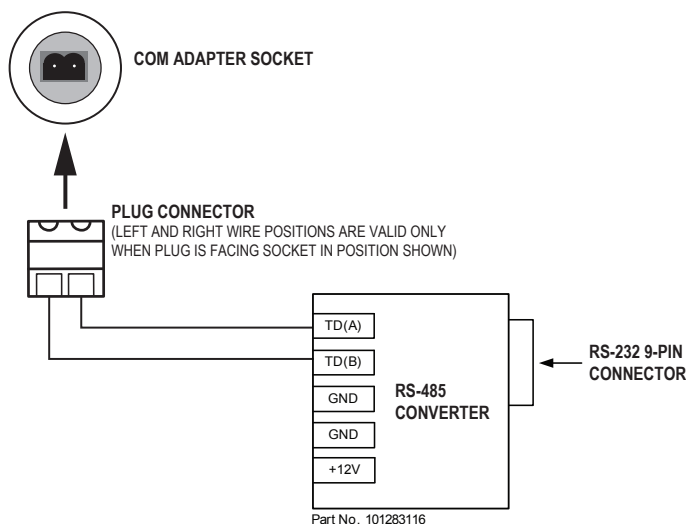

Figure A.15—Wiring of plug connector to Cameron 9-pin RS-232 to RS-485 converter cable
The adapter is shipped pre-assembled in the Scanner 2100 when it is ordered with the unit. The installed adapter is comprised of an RS-485 adapter socket, a blanking plug, and a union nut. A plug connector that mates with the RS-485 adapter socket when the adapter is in use is shipped with the device (uninstalled). This plug connector should be wired to an RS-485 converter cable, and stored with the cable when the COM adapter is not in use. Wiring instructions for connecting the plug connector to an RS-485 converter cable are provided in Figure A.15.
1. Unscrew the union nut to expose the connector socket shown in Figure A.15. A blanking plug will be removed with the union nut. Store the union nut and blanking plug in a safe place. (They will need to be reinstalled when the adapter is not in use.)
2. Connect the plug connector to an RS-485 converter cable, if it is not already attached (Figure A.15).